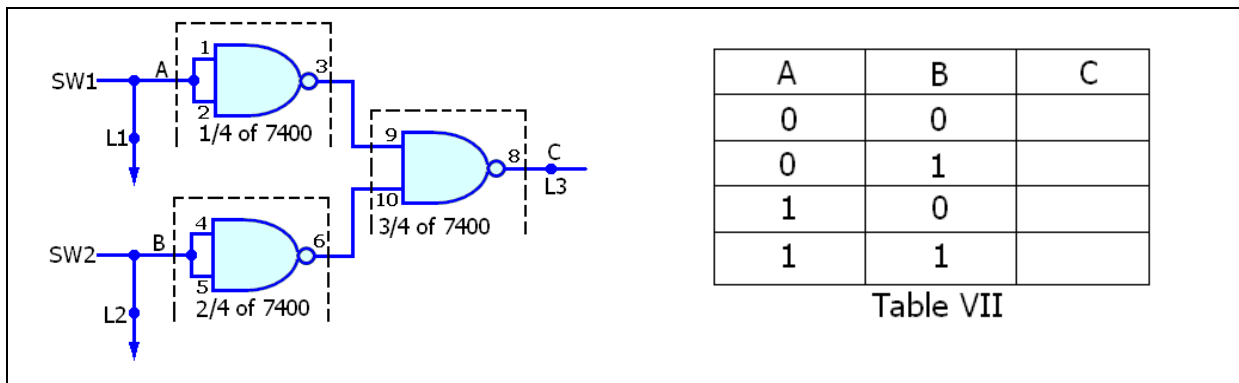
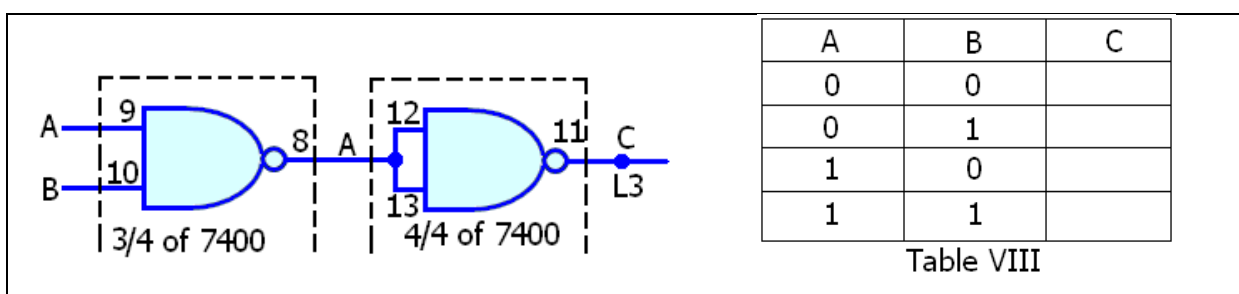

Fig. 1-6
Fig. 1-7
18. Connect the circuit shown in Fig. 1-6. Monitor the inputs and output on LED indicators L1, L2, and L3. With SW1 (A) and SW2 (B), apply the inputs shown in Table VII. Record the output state corresponding to each set of inputs. Use positive logic.
19. Study Fig. 1-6 and Table VII. What logic function is being performed?
20. Modify your circuit in Fig. 1-6 by adding the fourth gate in the 7400 to the output, as shown in Fig. 1-7. Only the output change is shown. The rest of the circuit stays as in Fig. 1-6.